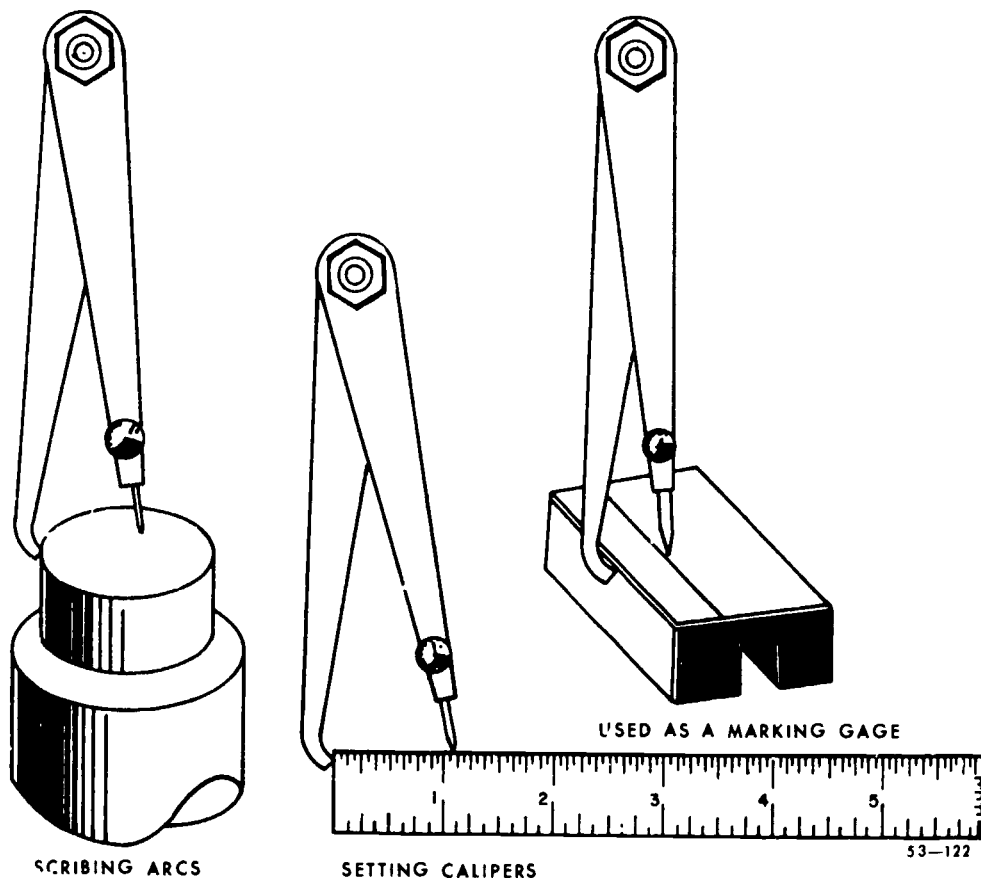

Figure 5-28 Using the hermaphrodite caliper.
**Hermaphrodite caliper.** Figure 5-28 shows some of the ways the hermaphrodite caliper is used. It can be used to locate the center of a boss or other round projection. To do this, set the caliper to a rough estimate of half the diameter of the boss and then scribe four arcs spaced approximately 90° apart. A small square will be formed around the true center. This method is not recommended when great accuracy is required.